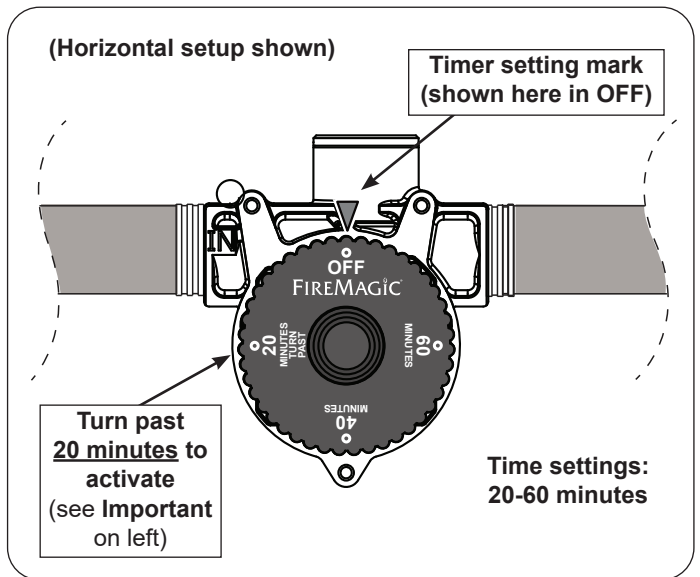

Fig. 2-1 Timer operation
**Important:** When using the timer for periods of less than twenty minutes, you must first turn the dial past 20 minutes (to activate), then return (counter-clockwise) to the desired amount of time. This will ensure proper timer operation. See Fig. 2-1.